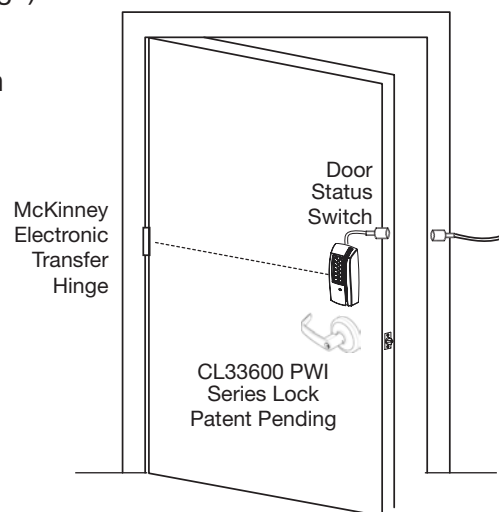

Fig. 5a
- a. Drill 3/4" hole in frame for switch (Fig. 5a and 5b, next page).
Feed lock body and wires through 2-1/8" diameter hole from outside of door (Fig. 5a).